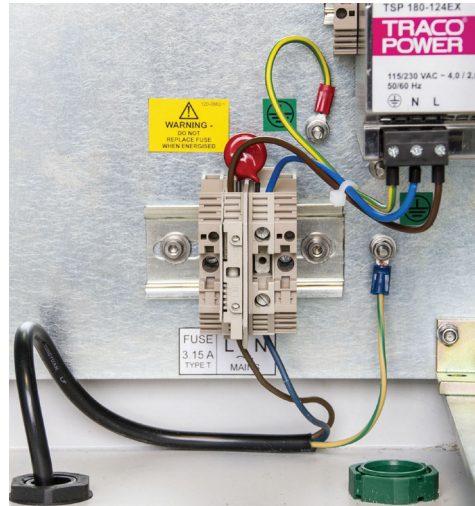

Figure 4.1 - AC power input connections
The AC power cable should enter the enclosure through a cable gland (minimum IP65) from the underside on the right-hand side. The AC power connection terminals are located on the inner back panel of the enclosure on the lower right-hand side- see Figure 4.1.
The incoming AC power wiring terminates on a pair of DIN-rail mounted terminals, see Figure 4.1.
- Feed the AC power cable through the cable gland and prepare the live (L) and neutral (N) wire ends, preferably with crimped ferrules, for connection to the terminals. Avoid excessive length on these cable ends to avoid the possibility of a loose end touching adjacent surfaces. Tighten terminals to a torque value in the range 0.8- 1.6Nm.
- The protective ground wire should be fitted with an M4, crimped, ring-terminal and connected securely to the threaded stud marked to the lower right of the DIN terminals- see Figure 4.1. Ensure that the earth wire is always the longest so that it will be the last one to take the strain if the cable should slip in the gland that anchors it.